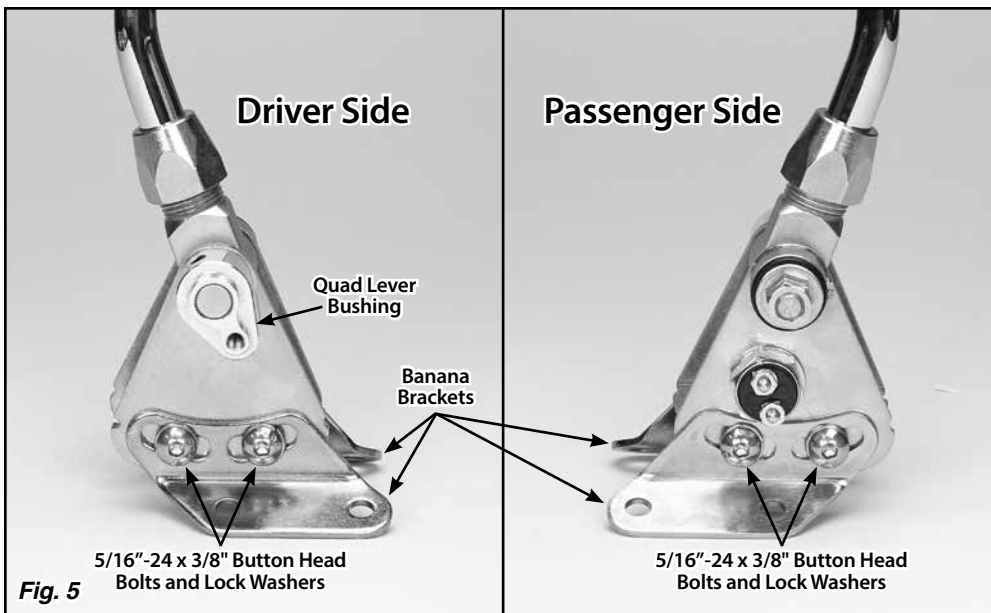

Fig. 5
Step 8: Install the banana brackets onto the shifter assembly using the 5/16"-24 x 3/8" button head bolts with lock washers. The curved, slotted holes in the banana brackets go against the shifter, and the bottom of both banana brackets should be pointing towards the rear. **Fig. 5**